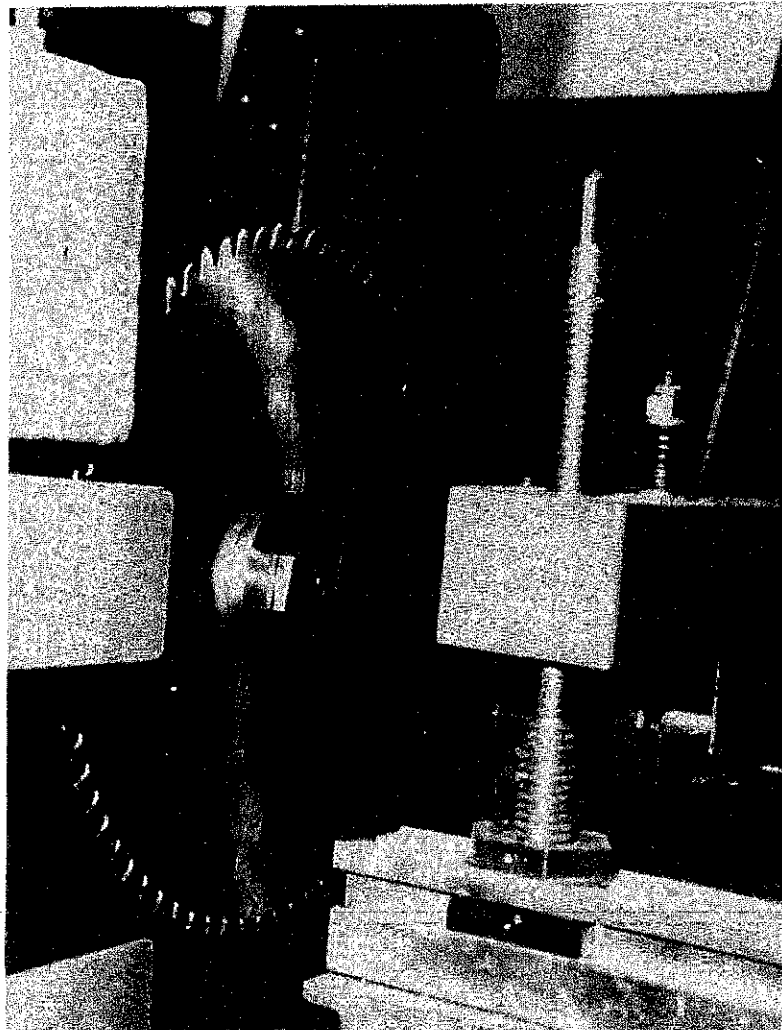

FIG. 22
- e) Place toggle bar in rear flange and use box spanner to remove nut as shown in FIG.22.